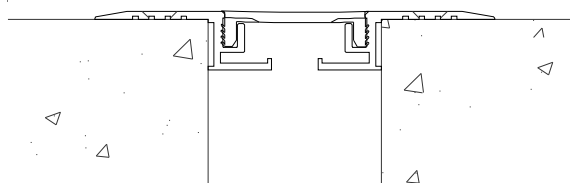

Figure 5
STEP 9. Place the assembled joint cover into its installed position over the joint (see Figure 5). Ensure that the system is plumb, level, properly aligned, and centered over the joint. Balco, Inc. recommends using